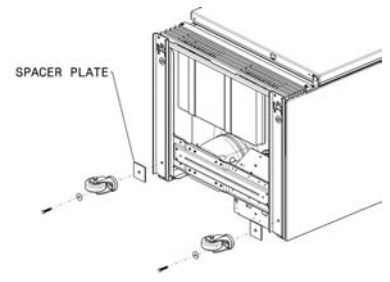

Figure 5
- Next, insert that same caster bolt through the hole on the metal spacer plate and then thru the rear hole of the caster rail (see Fig. 5).